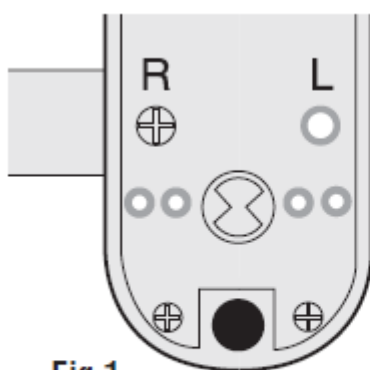

Fig 1
- Remove blue handing screw from position 'R' (Fig 1).